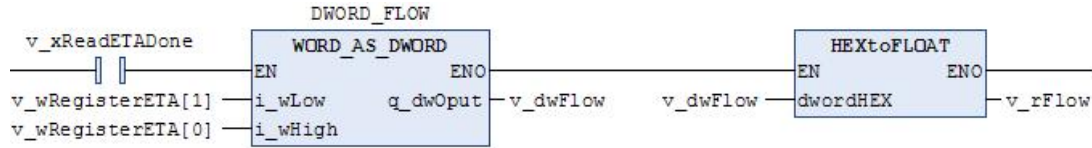

Figure F4-8
④Convert the read data into instantaneous flow rate, as shown in Figure F4-8, v\_ RFlow is the instantaneous flow rate: